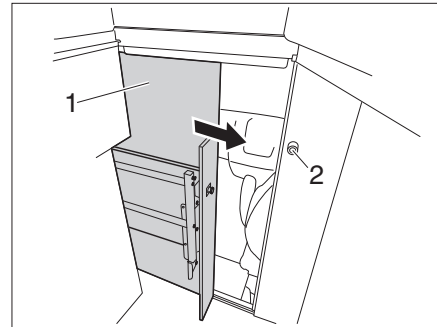

Fig. 56 Driver's cabin lock
▷ Only drive with the doors (Fig. 56,1) secured.
- Slide the door (Fig. 56,1) closed until it latches into the lock.
- Turn the handle (Fig. 56,2) anticlockwise until the door is locked.
- Turn the handle (Fig. 56,2) clockwise until the door is unlocked.
- Slide open the door (Fig. 56,1) and secure it.